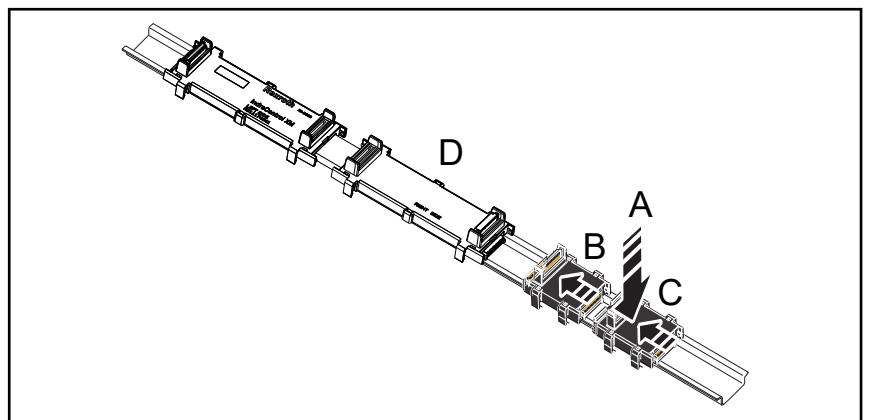
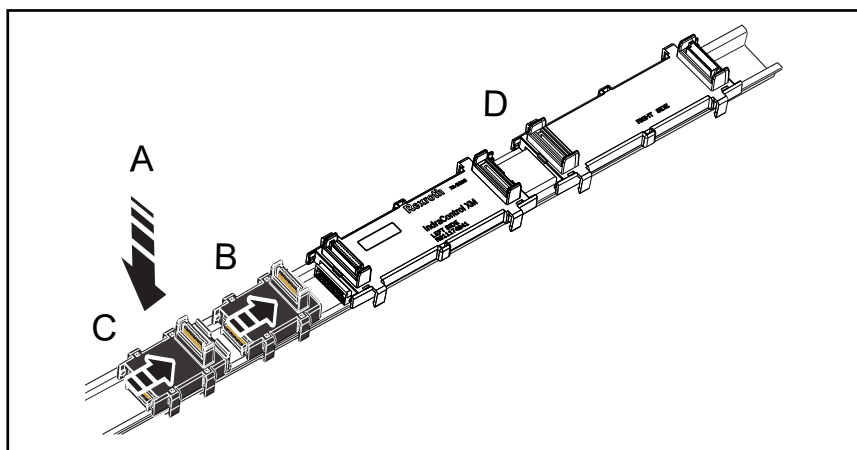

Fig. 3-8: Interconnect S20 bus bases and to the control bus base
Fig. 3-10: Interconnect extension bus bases and connect them to the control bus base
3. Mount the S20 bus bases and the bus bases for the extension modules, refer to fig. 3-8 "Interconnect S20 bus bases and to the control bus base" on page 13 and fig. 3-10 "Interconnect extension bus bases and connect them to the control bus base" on page 14.